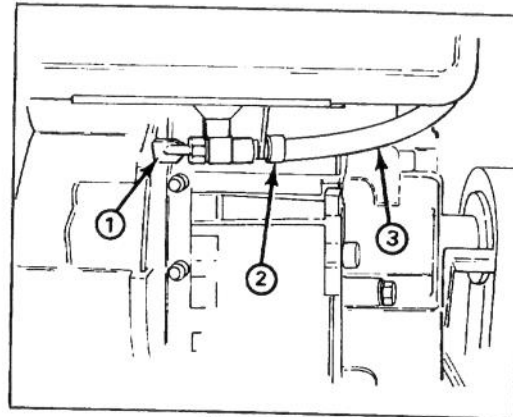

Figure 17
1. Close fuel shut off valve located under engine (Fig. 17).